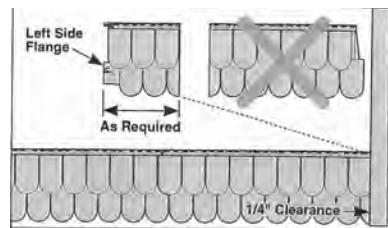

Fig.13
- a. Round Cut – Measure appropriate distance from the Left Side Flange of panel (allowing for staggered vertical laps) and cut (see Figure 13)